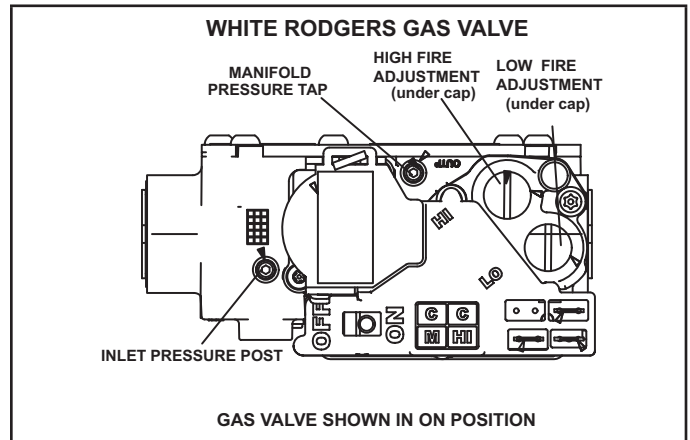

FIGURE 53
Gas Valve Operation (FIGURE 53)
- 6 - Move gas valve switch to OFF. See FIGURE 53.
- 8 - Move gas valve switch to ON. See FIGURE 53.
A manifold pressure post located on the gas valve provides access to the manifold pressure. See FIGURE 53. Back out the 3/32 hex screw one turn, connect a piece of 5/16 tubing and connect to a manometer to measure manifold pressure.
- 5 - If necessary, make adjustments. FIGURE 53 shows location of high fire and low fire adjustment screws.